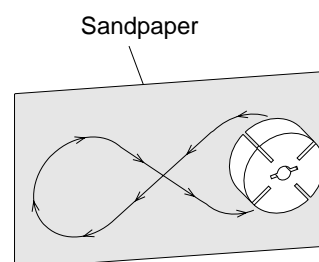

Figure 17 - Sanding Rotor
14. Place fine grade sandpaper (600 grit) on flat surface. Sand rotor lightly in "figure 8" motion four times (see Figure 17).